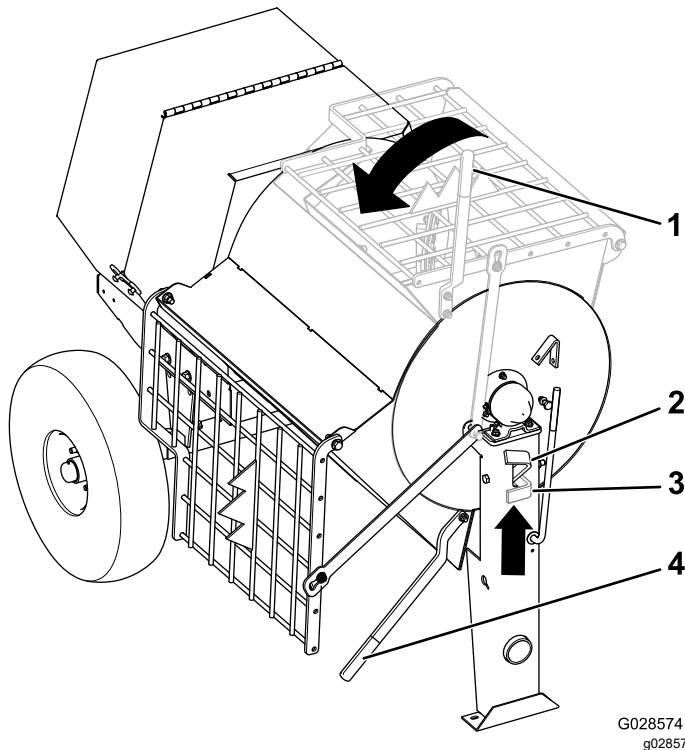

Figure 31
2. Grasp the dump handle with your left hand (Figure 31).
4. With both hands on the dump handle, rotate it counterclockwise to discharge the contents of the drum (Figure 31).
5. Rotate the dump handle **clockwise** until the drum latch locks the drum in the upright position (Figure 31).
3. Lift the handle of the drum latch (Figure 31).